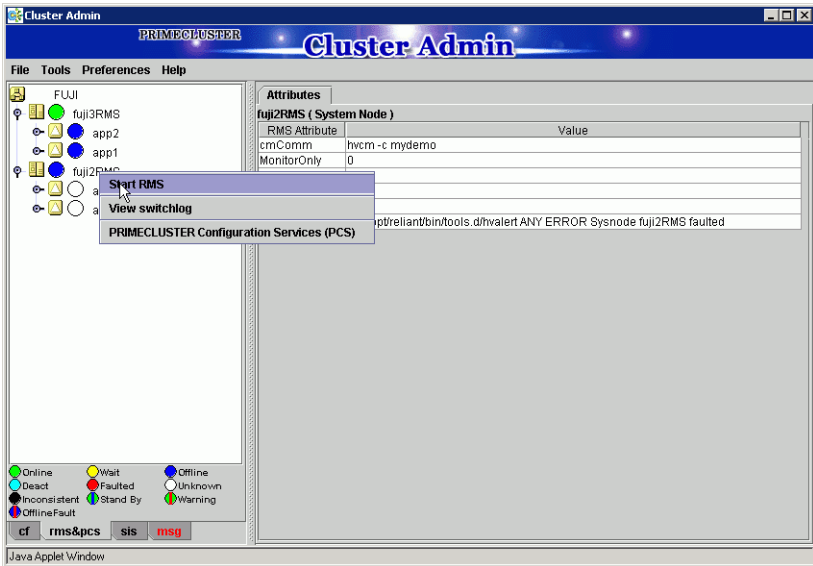

Figure 100: Starting RMS on individual nodes
2. Right-click on the node and select *StartRMS* from the pop-up menu (Figure 100).